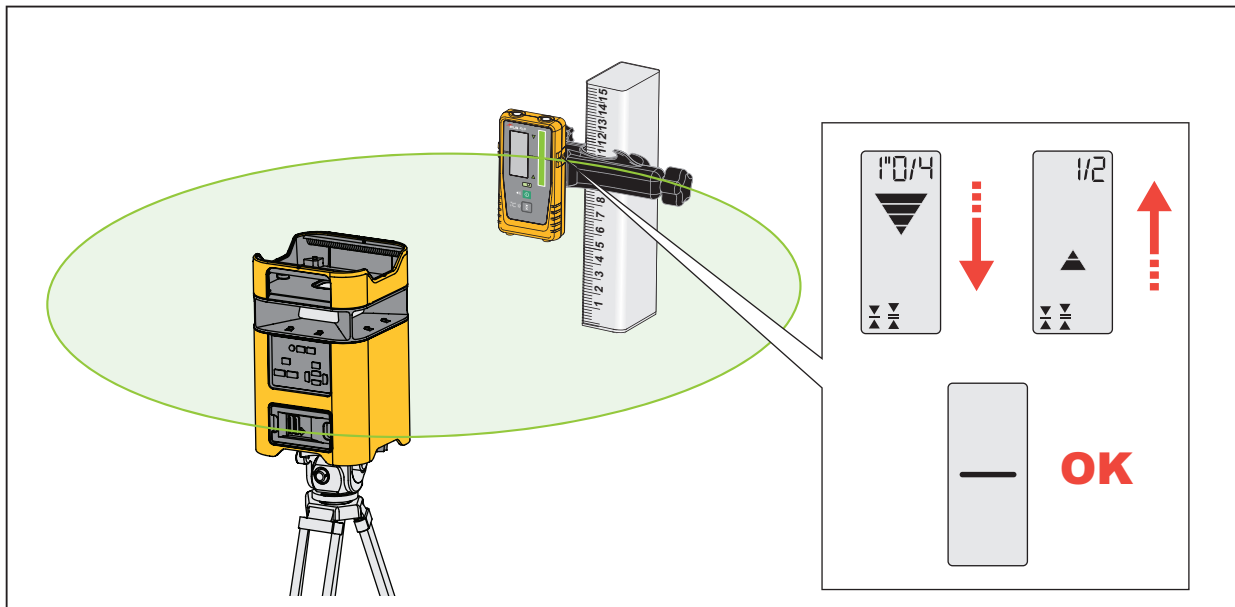

Figure 2. Level and Detector
3. Turn on the laser level and the Detector and direct the laser beam toward the laser reception window of the Detector. See Figure 2.
4. Move the Detector up and down the rod until the laser level on the display indicates the Detector is level with the laser beam. See Figure 2.